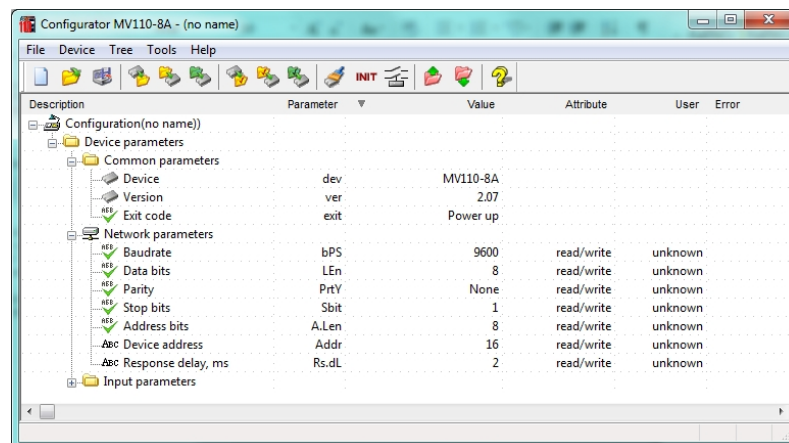

Fig. 7.2 M110 Configurator main window
- The main window of the Configurator opens. Saved user parameters of the module can be read now (see Fig. 7.2).